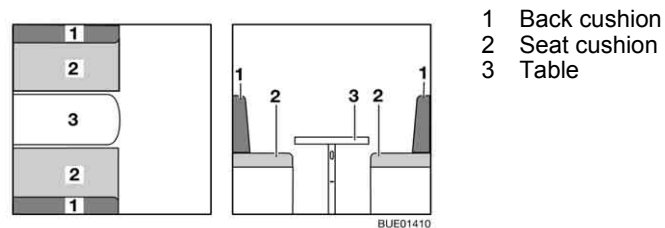

Fig. 113 Prior to conversion
- Convert the table (Fig. 113,3) to a bed foundation (see section 6.12).
- Remove the back cushions (Fig. 113,1) and place one of them on the table.